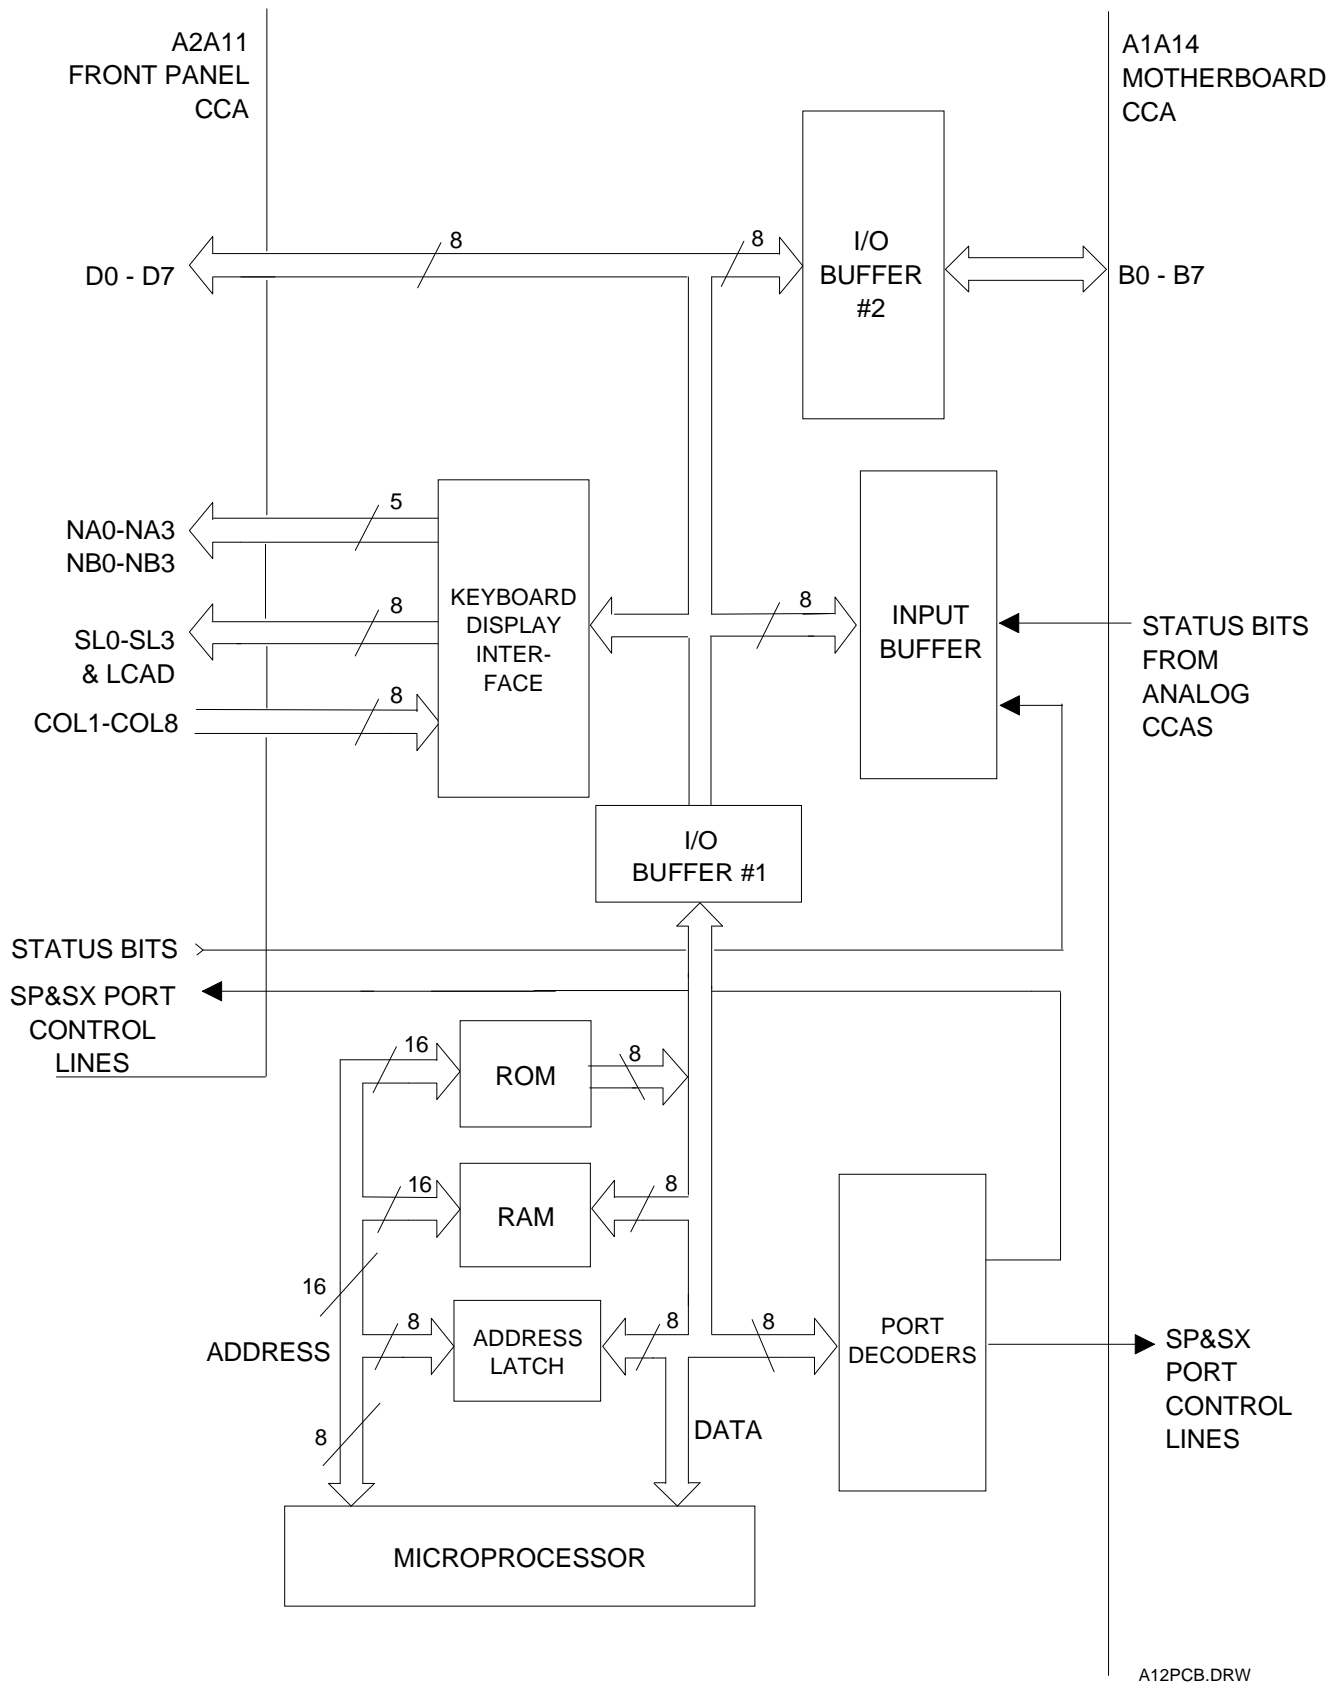

Figure 2-2. A2A12 Microprocessor CCA Functional Block Diagram
b. *A2A12 Microprocessor PCB*. This PCB (Figure 2-2) provides the following functions: